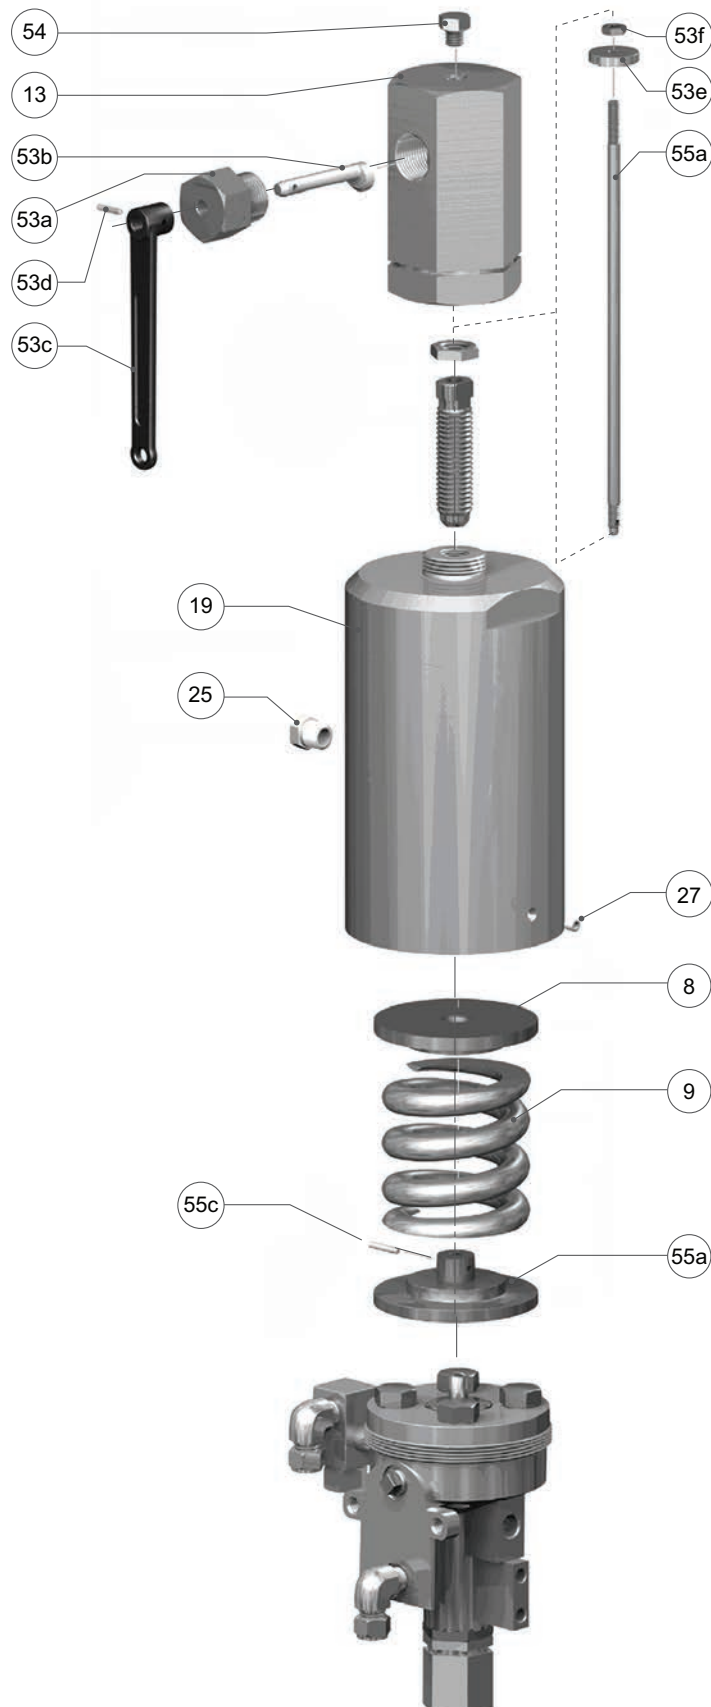
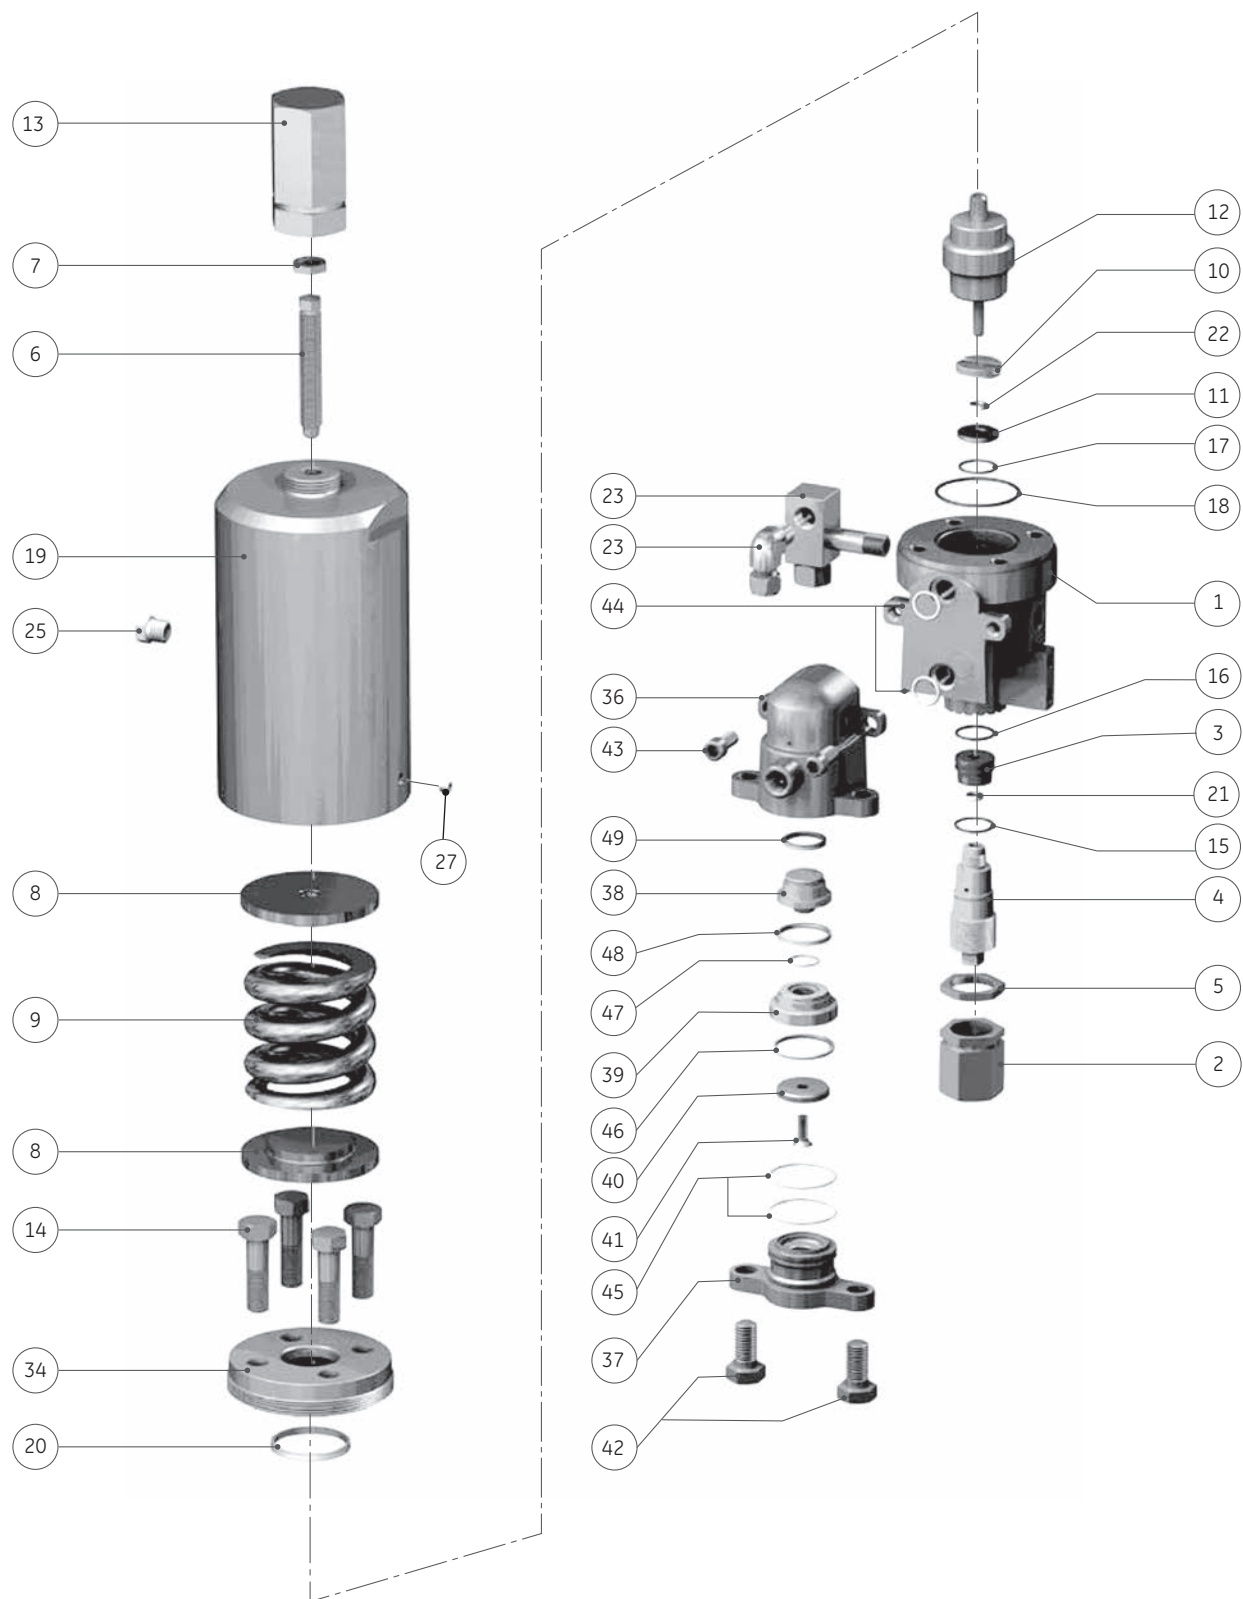

Figure 52: Lifting Lever Disassembly
Figure 53: 39MV07 Disassembly
3. If a lifting lever is installed, also use Figure 52 to remove the Lifting Lever assembly. Then return to Figure 51 to continue disassembly.
Figures 52 and 53
3. If a lifting lever is installed, also use Figure 52 to remove the Lifting Lever assembly. Then return to Figure 53 to continue disassembly.